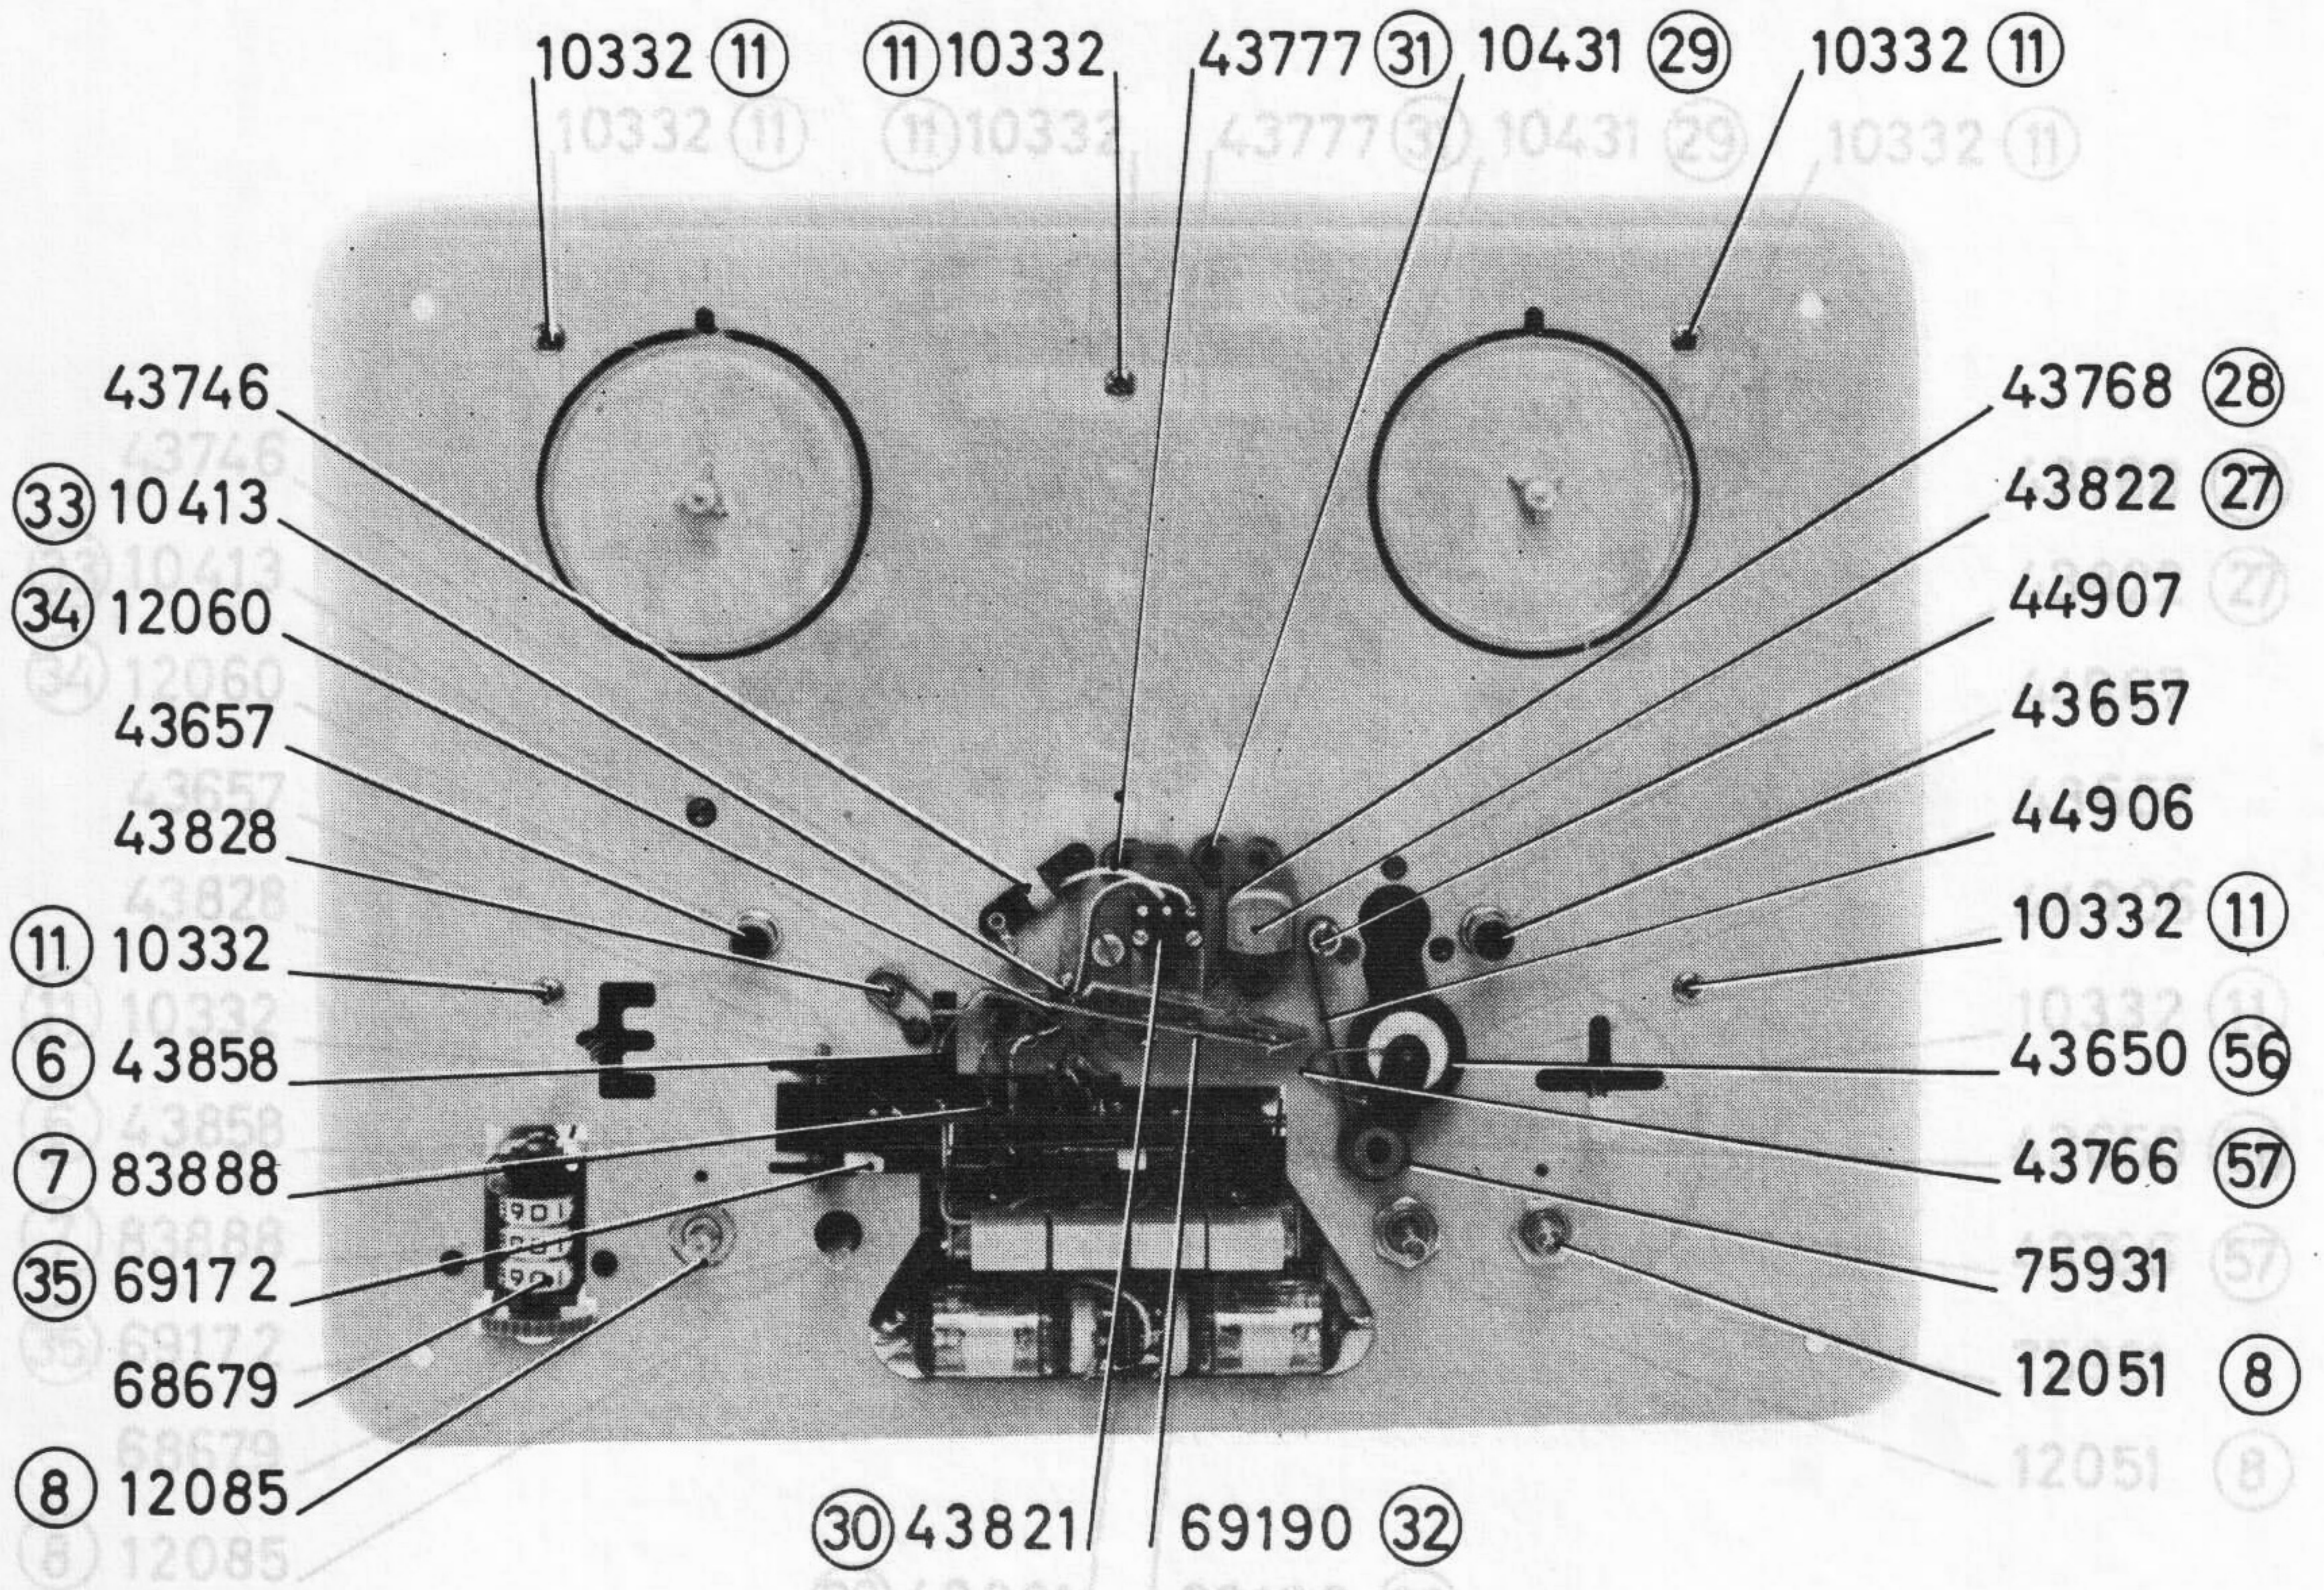

Fig. 2
4. LOSSA UTLÖSNINGSTRÅDEN (6) VID TAPPEN. SE FIG. 2.
5. BORTTAG ANSLUTNINGSTIFTEN (7) FRÅN HUVUDENA. SE FIG. 2.
6. BORTTAG TVÅ MUTTRAR (8) SOM FASTHÅLLER FÖRSTÄRKAREN I BASPLATTAN. SE FIG. 2.
10. BORTTAG DE FEM KRYSSKRUVARNA (11) PÅ BASPLATTAN. SE FIG. 2.
TONHUVUDET (27) JUSTERAS I HÖJDLED, SÅ ATT DESS ÖVRE KÄRNPLÅT KOMMER ATT LIGGA PÅ SAMMA HÖJD SOM TONBANDETS ÖVRE KANT. DESSUTOM TILLSER ATT HUVUDETS FÄSTPLÅT (28) KOMMER PARALLELLT MED BASPLATTAN. MAX. AVVIKELSE 0,2 MM. SPALTVINKELN INJUSTERAS MED TILLHJÄLP AV TESTBAND. SKRUVEN (29) JUSTERAS, SÅ ATT MAXIMAL UTSIGNAL ERHÅLLES FRÅN TESTBANDET. SE FIG. 2.
RADERHUVUDET (30) JUSTERAS, SÅ ATT DESS ÖVRE KÄRNPLÅT KOMMER 0,1 - 0,2 MM ÖVER TONBANDETS ÖVRE KANT. KÄRNPLÅTEN SKALL DESSUTOM LIGGA PARALLELLT MED TONBANDETS ÖVRE KANT. FÄSTPLATTANS (31) FRÄMRE OCH BAKRE DEL SKALL LIGGA PÅ SAMMA HÖJD FRÅN BASPLATTAN. MAX. AVVIKELSE 0,2 MM. SE FIG. 2.
TRYCKBANDET (32) SKALL HA ETT LÄMPLIGT TRYCK MOT HUVUDET (27). DETTA MÄTES INDIREKT GENOM ATT EN BIT TONBAND, FASTSATT I EN FJÄDERVÅG, LÅNGSAMT DRAGES MEDELST VÅGEN GENOM BANDSTYRNINGARNA, DÅ HUVUDETS RÖRLIGA SKÄRMPLÅT LIGGER SÄKERT AN MOT HUVUDET. VÅGEN SKALL DÅ VISA 40 ± 5 GRAM. FÖR HÖG DRAGKRAFT MINSKAS GENOM ATT TRYCKBANDETS SPÄNNING MINSKAS MED SKRUVEN (33) MUTTERN (34) LÅSES MED LACK. OBS! HÖGRE DRAGKRAFT ÄN 35 GRAM KAN ÅSTADKOMMA STARK FÖRSLITNING AV TONHUVUDET. SE FIG. 2.
VID JUSTERING AV TRYCKRULLEN (56) IAKTTAGES STOR FÖRSIKTIGHET SÅ ATT INTE NÅGON AV DESS TVÅ FJÄDRAR (57) DEFORMERAS, VILKET MEDFÖR ATT TRYCKRULLEN FÅR OLIKA ANLIGGNINGSTRYCK I ÖVRE OCH NEDRE KANTEN, VARVID BANDFÖRINGEN FÖRSÄMRAS, MED HÖGRE SVÄJVÄRDEN SOM FÖLJD. SE FIG. 2.